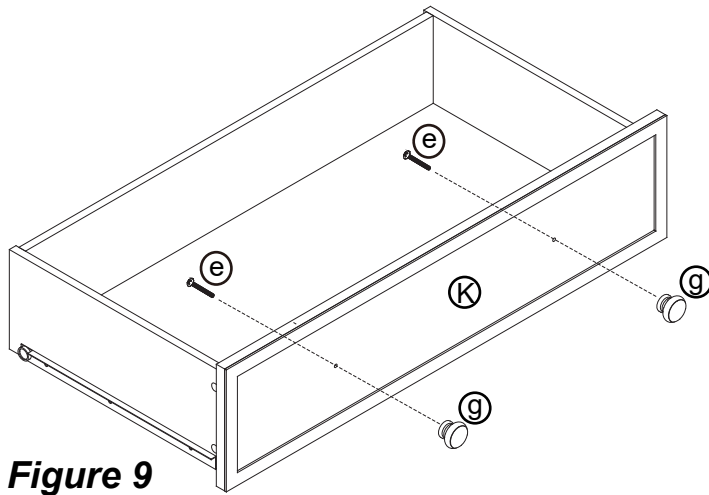

Figure 9
Insert 2pcs 1" Bolt(e) through the Drawer. Front Panel(K) to attach the Knob (g). As shown in **Figure 9**